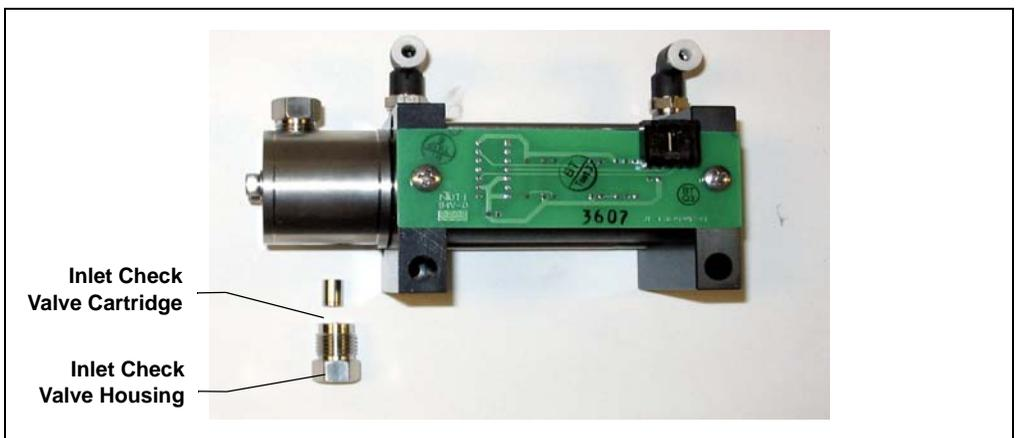

Figure 5-8. Disassembled Dionex ASE 150 Pump Inlet Check Valve
1. Use a 1/2-inch open-end wrench to loosen the *inlet* check valve housing. Remove the housing, and then remove the check valve cartridge from the housing (see Figure 5-8).